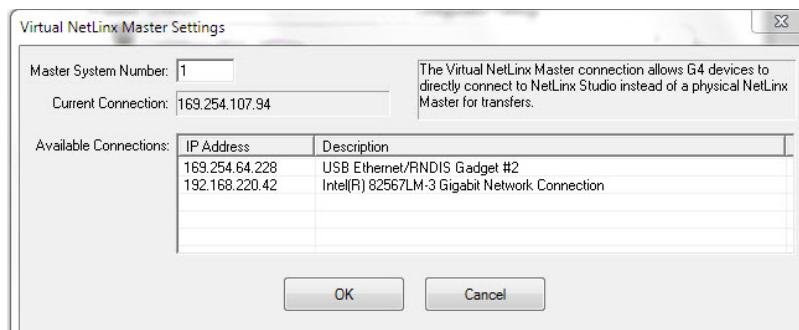

FIG. 34 Virtual NetLinx Master Settings dialog
6. Click the **Edit Settings** button to open the *Virtual NetLinx Master Settings* dialog (FIG. 34).